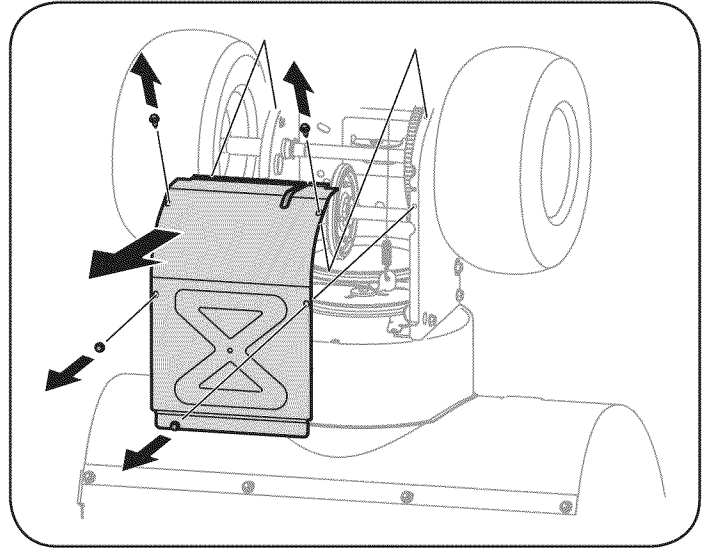

Figure 27
- Remove the frame cover from the underside of the snow thrower by removing the self-tapping screws which secure it. Refer to Figure 27.